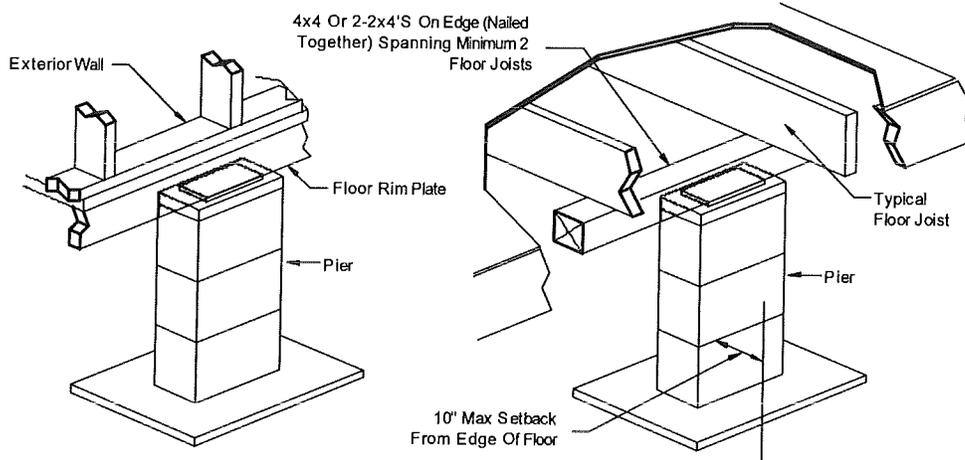

Figure 12. Perimeter supports
- Recess perimeter blocking supports and perimeter point load supports no more than 10 inches from the edge of the floor with added support as shown in Figure 12.